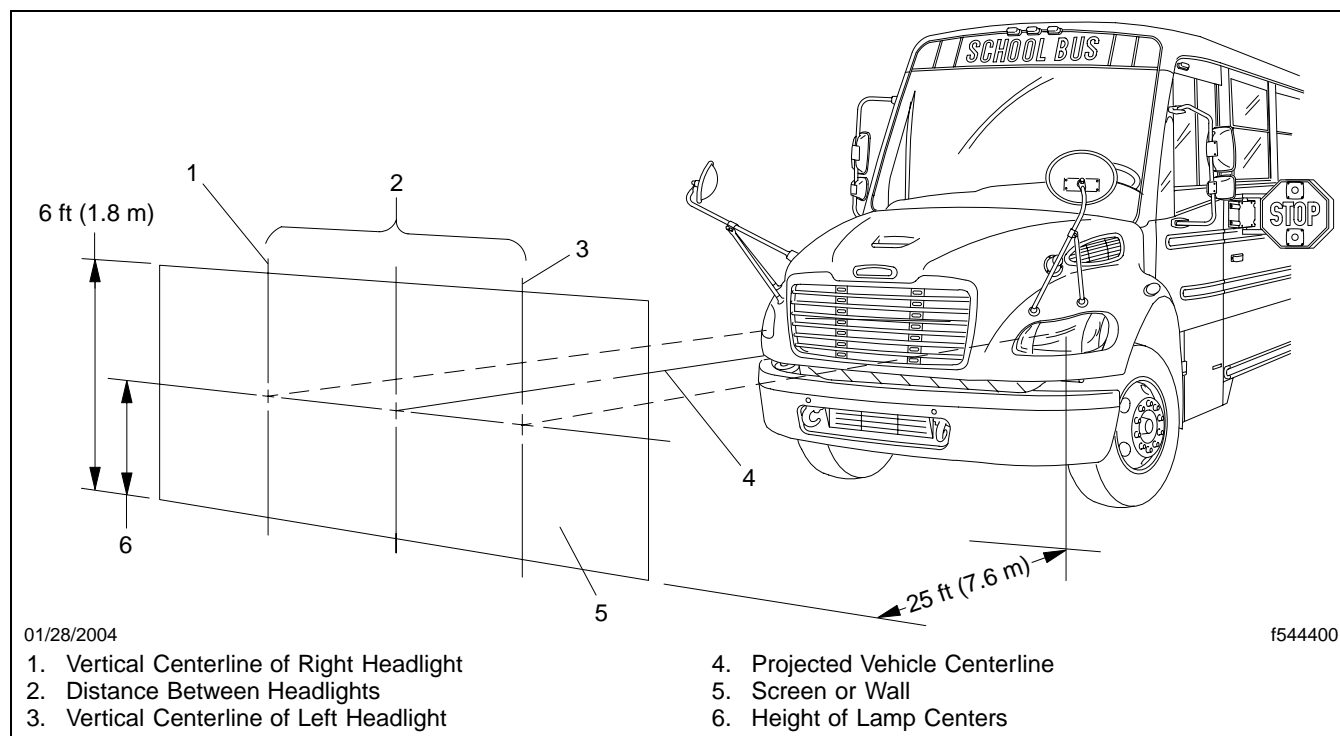

Fig. 1, Headlight Aiming Screen or Wall
1. Park the vehicle on a level surface 25 ft (7.6 m) from a screen or wall that can be used for aiming the headlights. See **Fig. 1**. Shut down the engine, apply the parking brakes, and chock the front tires.